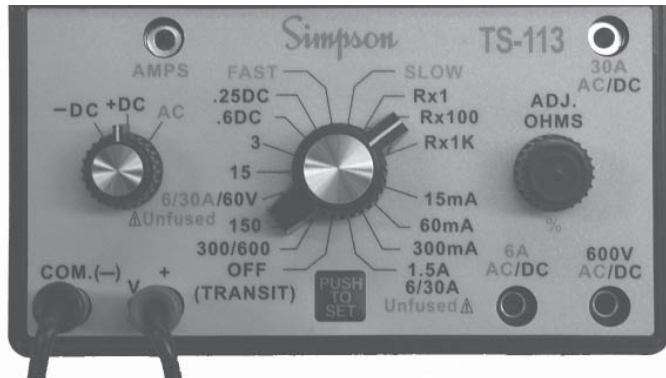

Figure 6. Resistance Measurements
- Connect leads to "COM(-)" and "+" (V W %) jacks as shown in Fig. 6